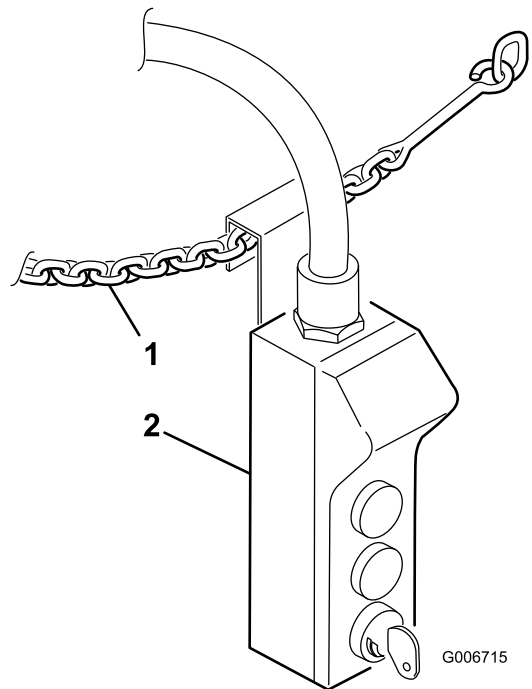

Figure 23
3. Climb into platform and secure safety chains across entry (Figure 23).